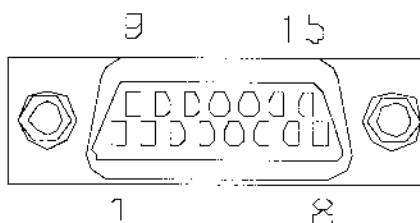

Figure 2-2. Connectors J1 MON 1 Through J3 MON 3
3. Connect control cable to J5 CONTROL connector on rear of subrack (refer to figure 2-2 and table 2-2 for J5 definition).
Connectors J1 MON 1 through J3 MON 3 on the rear of the MCR3303-3-1 subrack are 15-pin female D-sub connectors that permit monitoring various alarm signals for each amplifier in the subrack. Refer to figure 2-2 and table 2-2 for connector definition.